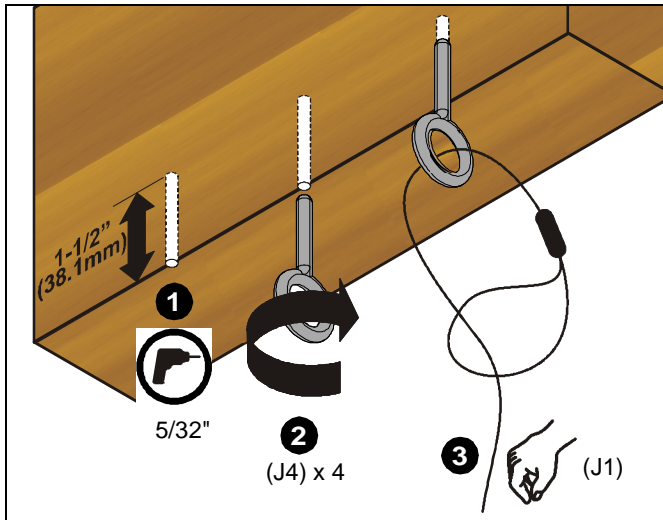

Figure 7
1. Drill a 5/32" diameter x 1-1/2" deep pilot hole at each marked cable anchor support location. Ensure hole is at least 5/8" from nearest wood edge. Remove debris from hole. (See Figure 7)
2. Fully thread eye lag (J4) into each hole. (See Figure 7)
3. Route end of cable (J1) through eye lag (J4) and then through cable loop. Repeat for 3 remaining support locations. (See Figure 7)